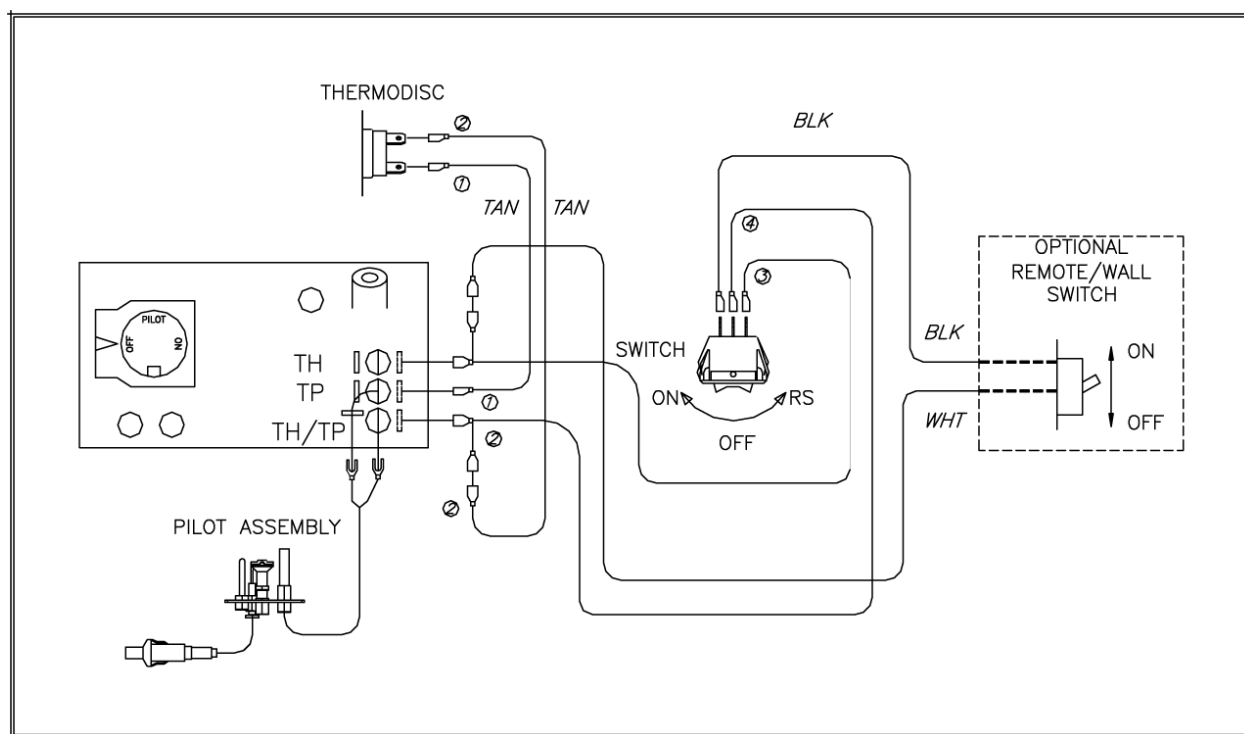

Figure 13: Wiring Diagram for Standing Pilot - Millivolt System
Fifteen (15) feet of 18 Ga. wire is provided as standard with this fireplace, that may be routed to a remote wall switch. The wire has been pre-wired at the valve and routed through the right side, outer shell. (Access is also available on the left side through the square hole on that side). Position the wall switch inside of a non-metallic junction box (not provided) at the desired location on the wall. Refer to Figure 13: Wiring Diagram for Standing Pilot - Millivolt System. Do not extend beyond the wall switch wire length provided.
The millivolt (thermopile) control is a self-powered combustion gas control. Refer to Figure 13: Wiring Diagram for Standing Pilot - Millivolt System. The millivolt system and individual components may be checked with a millivolt meter having 1-1000 mV range. Conduct each check listed below by connecting the meter test leads to the terminals indicated. Refer to **OPERATING INSTRUCTIONS** for safety and lighting instructions.